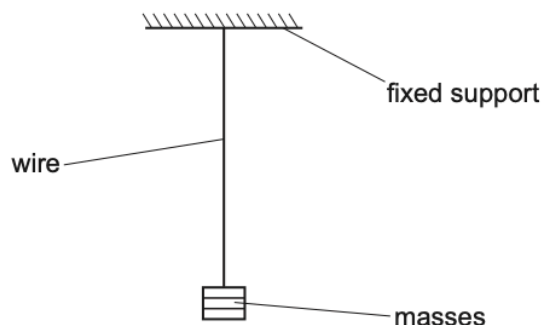

Fig. 6.1 (not to scale)
- (b) A uniform wire is suspended from a fixed support. Masses are added to the other end of the wire, as shown in Fig. 6.1.